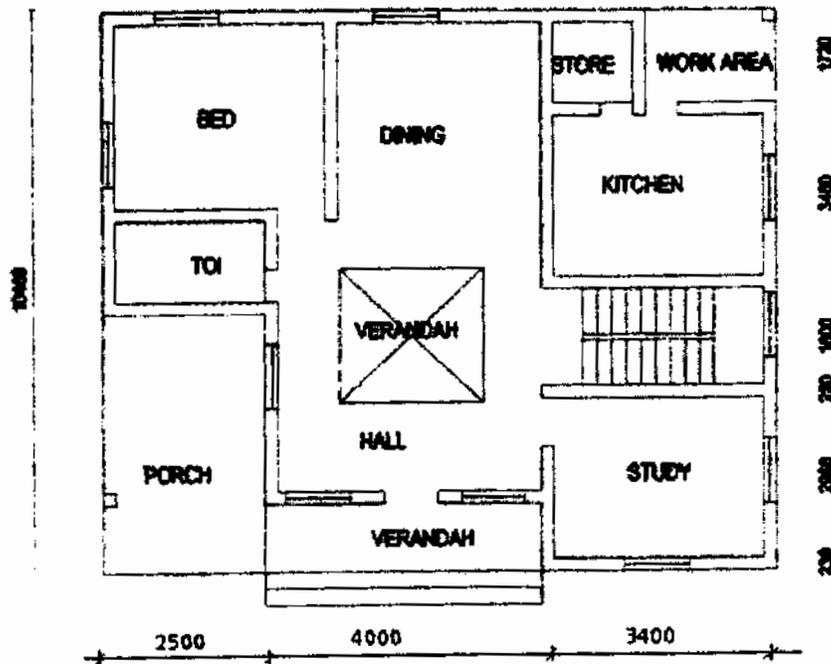

Figure 1
12. Figure 1 shows the plan of a domestic building which is to be provided with electrical connection. Provide sufficient number of light and fan points, 5 A socket outlets, 16 A socket outlets and bed room air conditioner based on the provisions of national electric code. Suggest the type of supply, number of sub circuits and specifications of MS, DB, ELCB, MCBs and also draw the installation plan and schematic diagram.